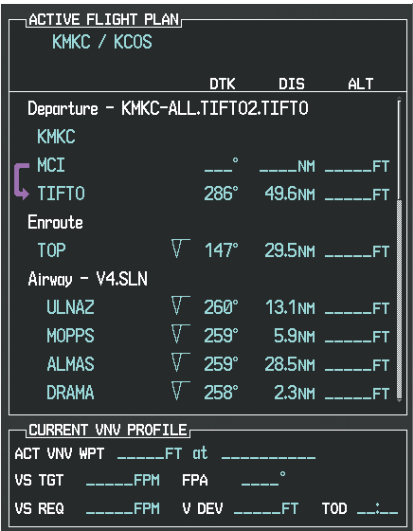

Figure 5-119 V4 is Loaded in the Flight Plan
I) V4 is now loaded into the flight plan as shown in Figure 5-119.